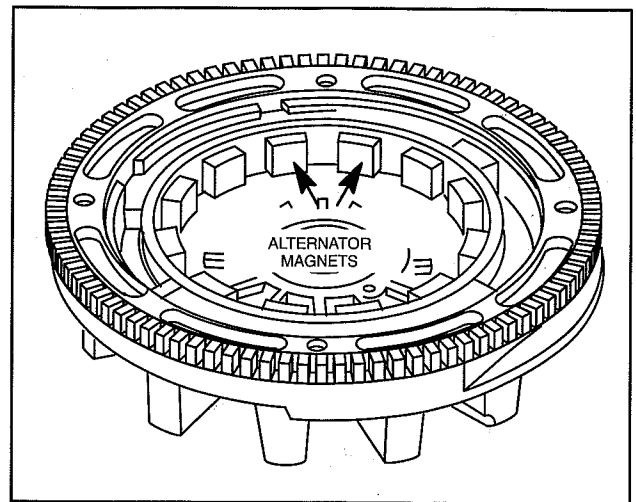

Fig. 8 – Alternator Magnets
OHV-Twin Cylinder Flywheels have a single ring of magnets which provide the magnetic field for the various alternator systems. There are three (3) sizes of alternator magnets. The size of the magnet determines the alternator output Fig. 8.